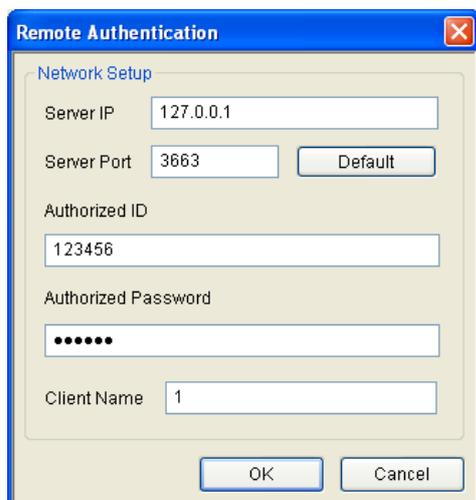

Figure 11-33
1. On the Host List, right-click **Host List by ID** and select **Remote Authentication Setup**. A dialog box appears. See Figure 11-33.